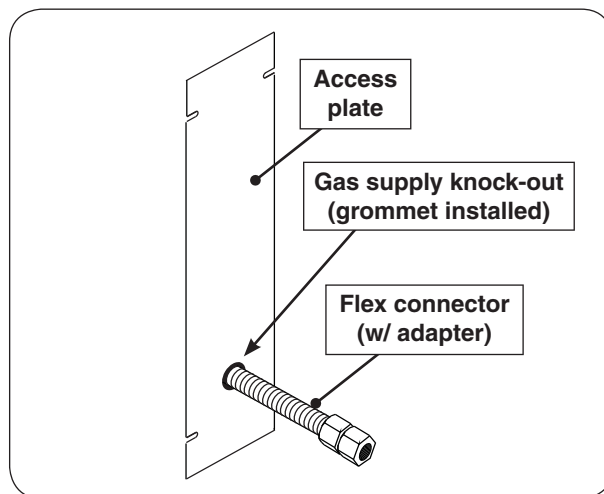

Fig. 15-2 Access plate view & install orientation
2. Remove the plastic grommet fastened to the inside of the post and insert it into the newly created opening. Then route the flex connector through the opening. See Fig. 15-2 and 15-3.